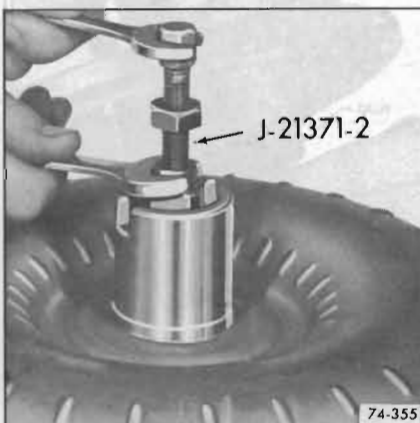

Figure 74-355
- a. Install Tool J-21371-2 and tighten brass nut. See Figure 74-355.